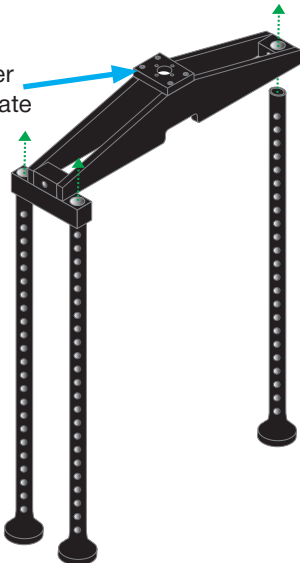

Fig 24
4. To mount the M2000 tester to the bridge remove the existing bridge and make sure the M12 locking adaptor is located in the operating jaw (**fig 24**).